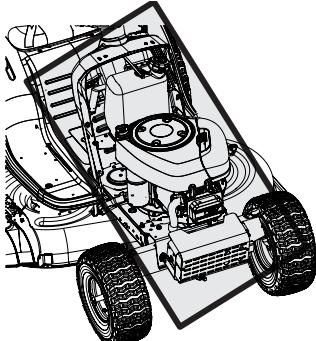

Figure 22
- Clean under the hood, including exhaust manifold, around fuses, all wiring and harnesses, muffler pipe, muffler pipe, engine intake screens and cooling fins, etc. See Figure 22.